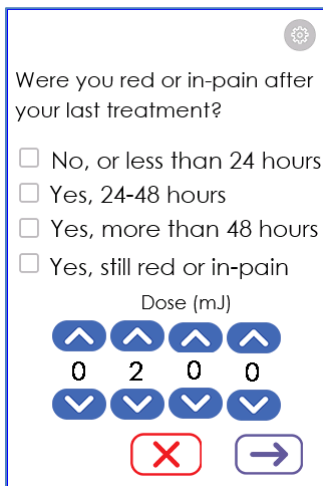

Figure 17 Guided Mode Prompts
3. Respond to the “red or in pain” skin-response prompt (**Figure 17**).